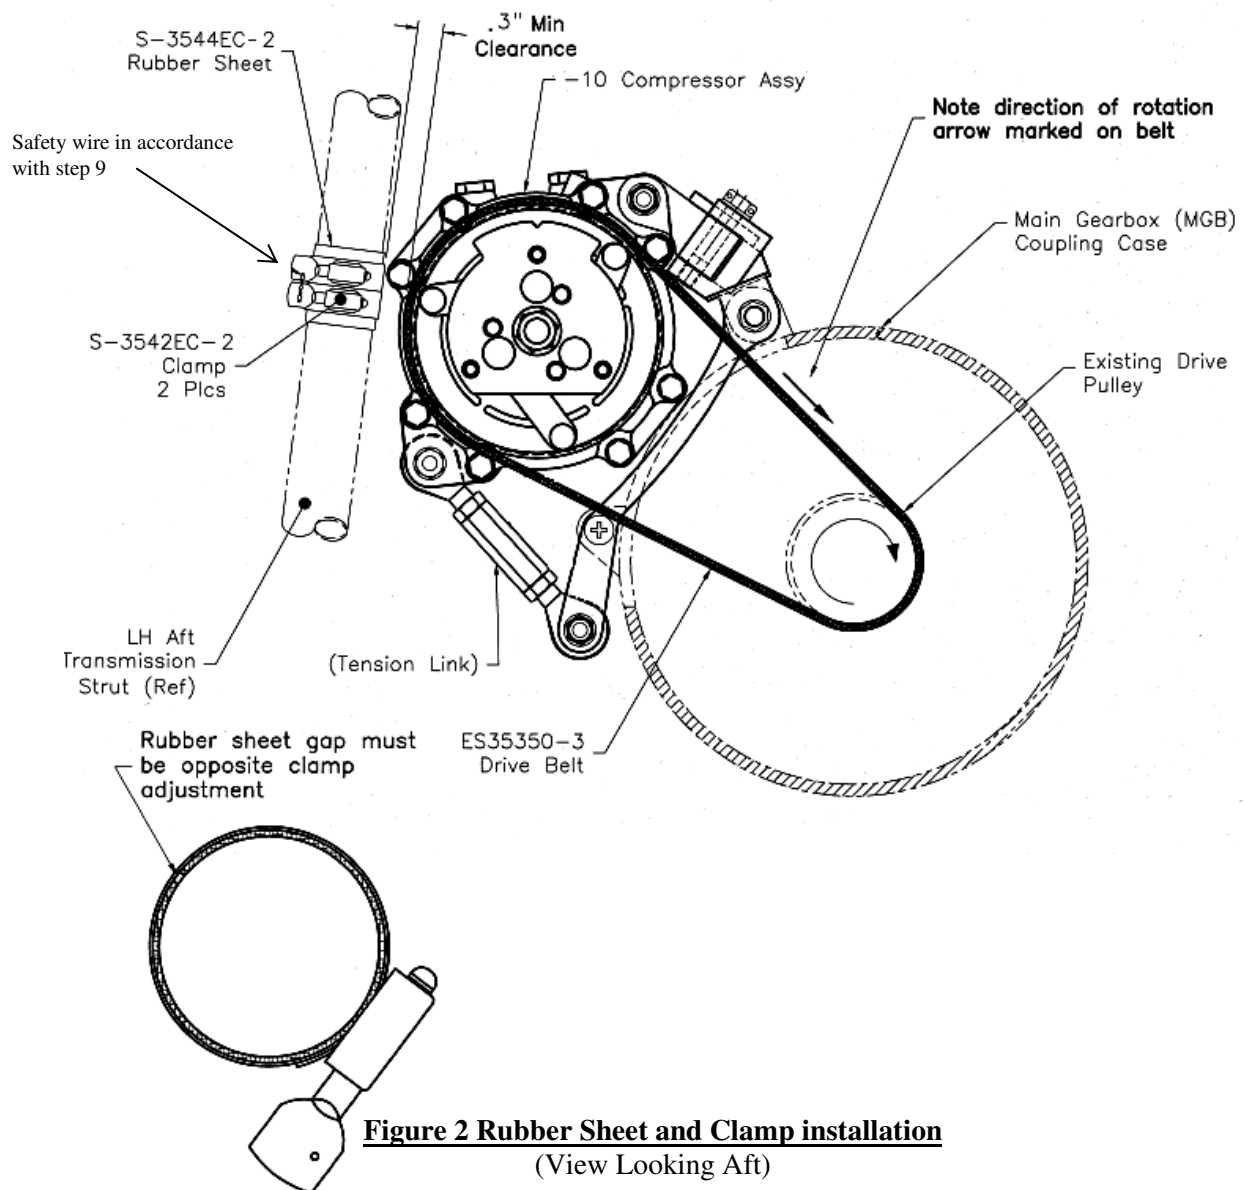

Figure 2 Rubber Sheet and Clamp installation
9. Using the mark from step 5 center the S-3542EC-2 rubber sheet and install using QTY 2 S-3542EC-2 clamps. (Ref Fig 2) Safety wire the S-3542EC-2 clamps using MS20995 safety wire in accordance with NASM33540